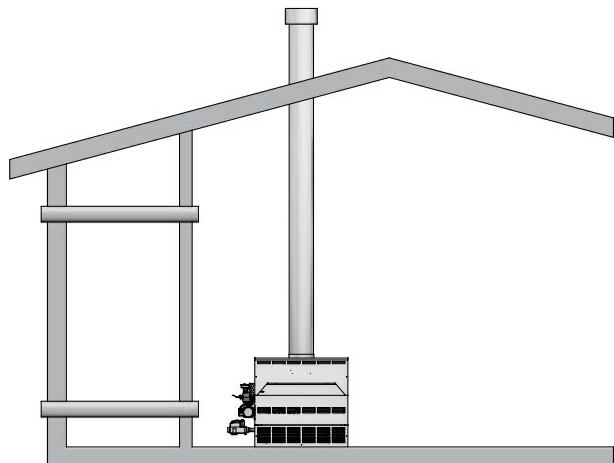

Figure 1-4 Combustion Air Through Ducts
2. If combustion and ventilation air is taken from the outdoors using a duct to deliver the air to the room where the appliance is installed, each of the two openings should be sized based on a minimum free area of one square inch per 2000 Btu/hr (11cm² per kW) (see FIG. 1-4).